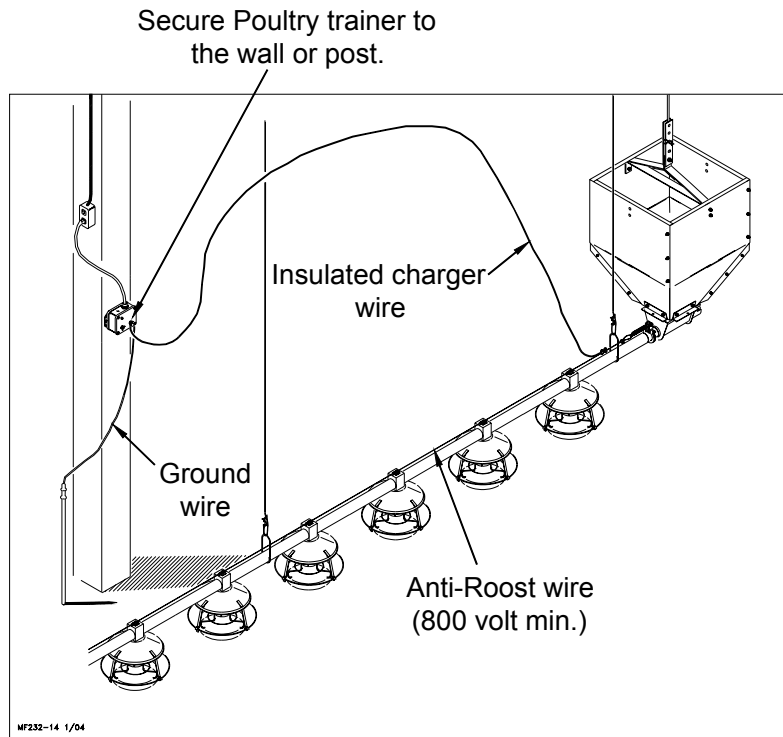

Figure 47. Poultry Trainer Installation
11. Install the Poultry Trainer or Line Charger, as shown in **Figure 47** or **Figure 48.**
The Poultry Trainer is used to power all Anti-Roost lines in a house, **see figure 47.**